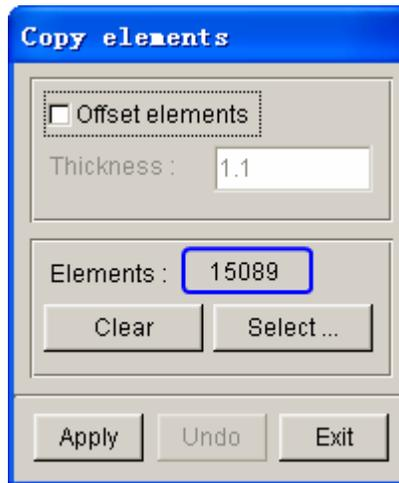

Figure 1.23 Copy Elements dialog box
14. Click **OK** button to return COPY ELEMENTS dialog box. Now, the **APPLY** button is activated. See Figure 1.23.